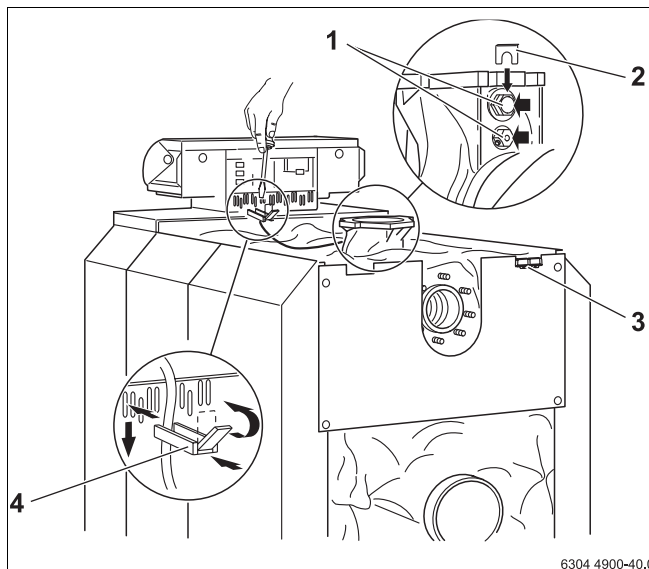

Fig. 52 Fastening the electrical leads
- ▶ Feed each sensor into the corresponding sensor well and secure it with its sensor holder (detailed view in → Fig. 52 has been turned through 180°).